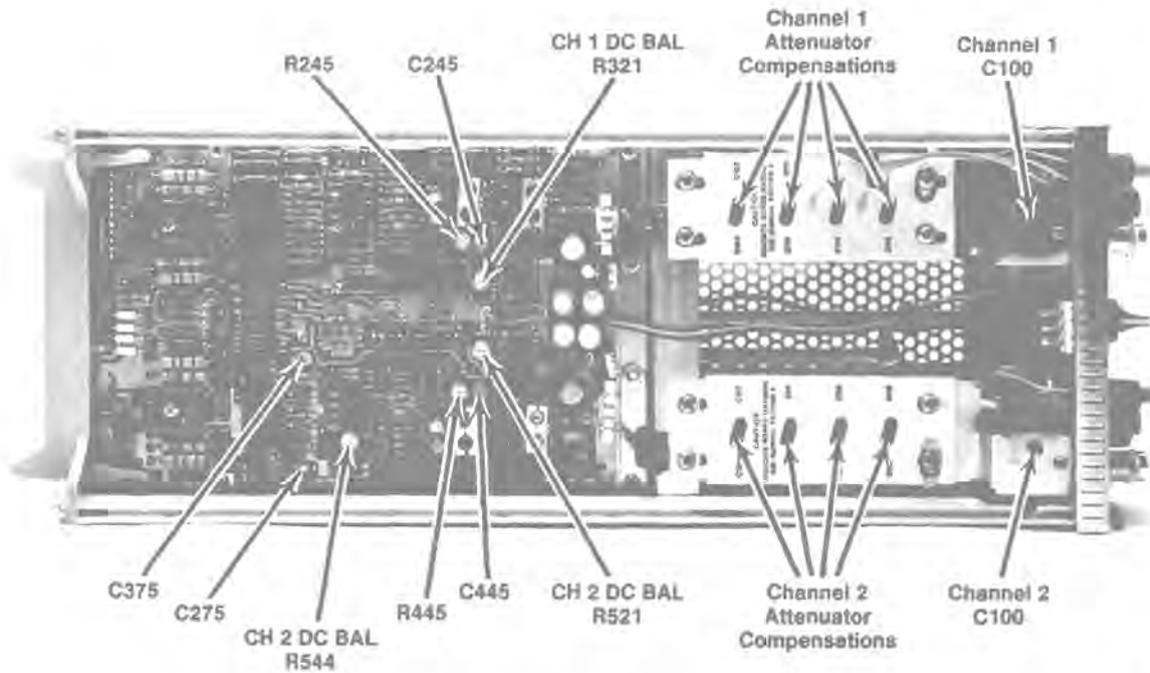

Fig. 4-1. Locations of adjustments used in this procedure.
The locations of the 7A18A adjustments are shown in Fig. 4-1.
d. ADJUST—Channel 1 DC Balance, R321 for minimum trace shift as the CH 1 VARIABLE control is rotated from fully counterclockwise to fully clockwise. See Fig. 4-1 for adjustment location.
h. ADJUST—DC BAL, R521, for no trace shift while switching CH 2 POLARITY switch from +UP to INVERT. See Fig. 4-1 for adjustment location.
i. ADJUST—CH 2 VARIABLE DC BAL, R544, for minimum trace shift as the CH 2 VARIABLE control is rotated from fully counterclockwise to fully clockwise. See Fig. 4-1 for adjustment location.
- g. ADJUST—Channel 1 C100 for optimum square corner on the displayed waveform (use tuning tool). See Fig. 4-1 for adjustment location.
- k. ADJUST—Channel 1 C100 for optimum square corner on the displayed waveform. See Fig. 4-1 for adjustment locations.
- e. ADJUST—CH 2 attenuator compensations as given in Table 4-3 for optimum square corner and flat top on the displayed waveform (use tuning tool). Re-adjust the generator output at each switch position to provide six divisions of deflection. See Fig. 4-1 for adjustment location.
- i. ADJUST—CH 1 attenuator compensations as given in Table 4-3 for optimum square corner and flat top on the displayed waveform. Re-adjust the generator output at each switch position to provide six divisions of deflection. See Fig. 4-1 for adjustment location.
f. ADJUST—C245, R245, and C275, for optimum square-wave response with minimum aberrations. Use the low-capacitance screwdriver to adjust the variable capacitors. Repeat these adjustments until optimum response is obtained. See Fig. 4-1 for adjustment location.
j. ADJUST—C445, R445, and C375, for optimum square-wave response with minimum aberrations. Use the low-capacitance screwdriver to adjust the variable capacitors. Repeat these adjustments until optimum response is obtained. See Fig. 4-1 for adjustment location.